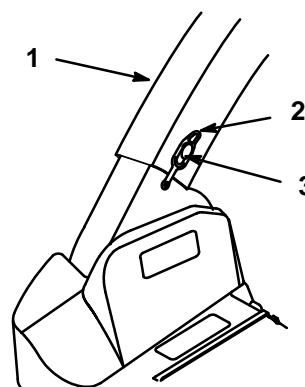

Figure 27
2. Insert the upper end of the discharge tube into the bagger top. Slide the lower end of the discharge tube over the blower opening (Fig. 27).
3. Hook the rubber latch over the knob (Fig. 27).